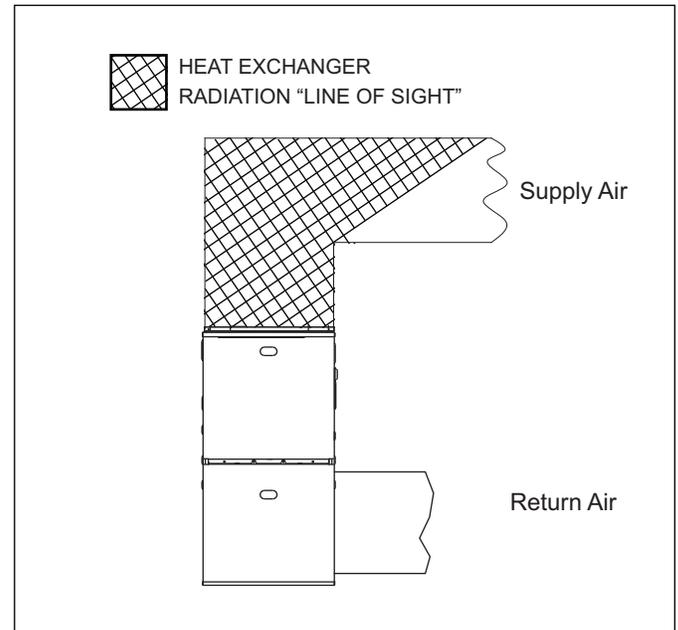

Figure 40 Temperature rise measurement
2. Place thermometers in the return and supply ducts as close to the furnace as possible. Thermometers must not be influenced by radiant heat by being able to "see" the primary heat exchanger (see Fig. 40).